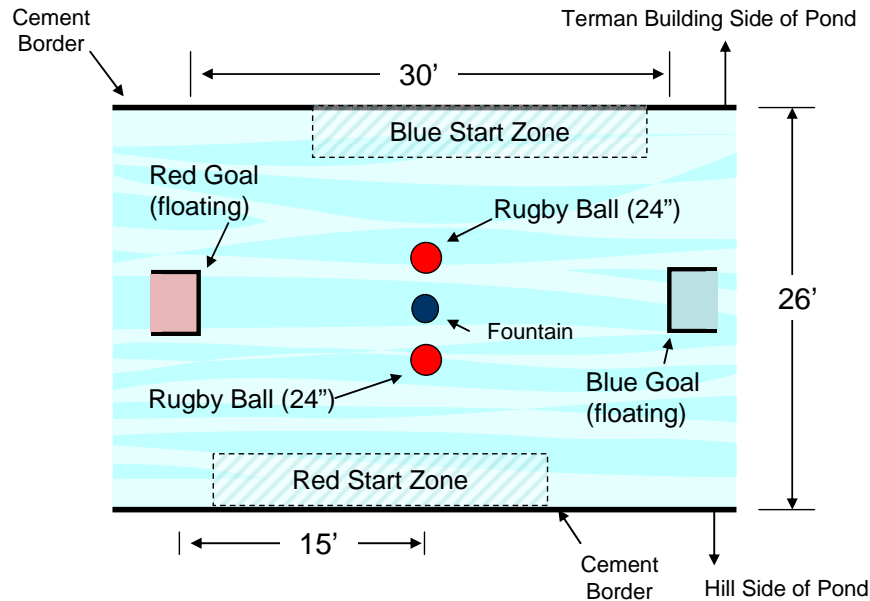

Figure 1: Field layout and dimensions
- Each game will begin with the rugby balls and goals in the positions shown in Fig. 1 and the TOWRPs placed in the Start Zone for their team.
- The Field is comprised of a portion of Terman Pond, initially measuring approximately 26 ft. wide by 30 ft. long (see Figure 1). One fountain spout will be located at the approximate center of the Field. Every effort will be made to ensure that the fountain will be off during grading sessions and public presentations.
- The goals will be floating, un-tethered, at the positions shown in Fig. 1 at the start of the game.